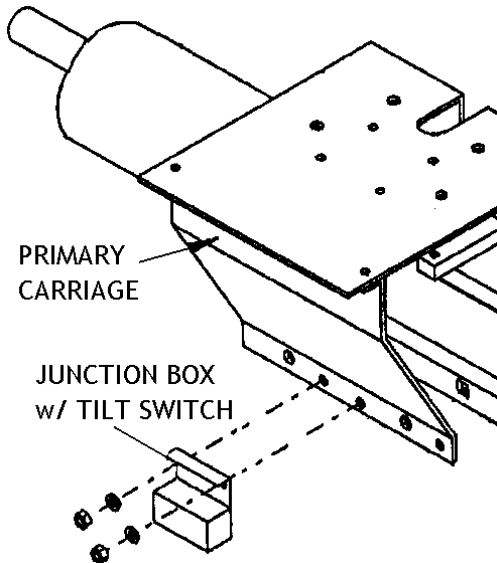

Figure 16-Tilt Switch Placement on Primary Carriage
- 23 Bolt junction box with attached tilt switch onto bottom of motor side of primary carriage using 5/16" x 1" bolts (pointing out through carriage) and 5/16" lockwashers and nuts provided on junction box. Tighten using 1/2" wrench. **Figure 16.**